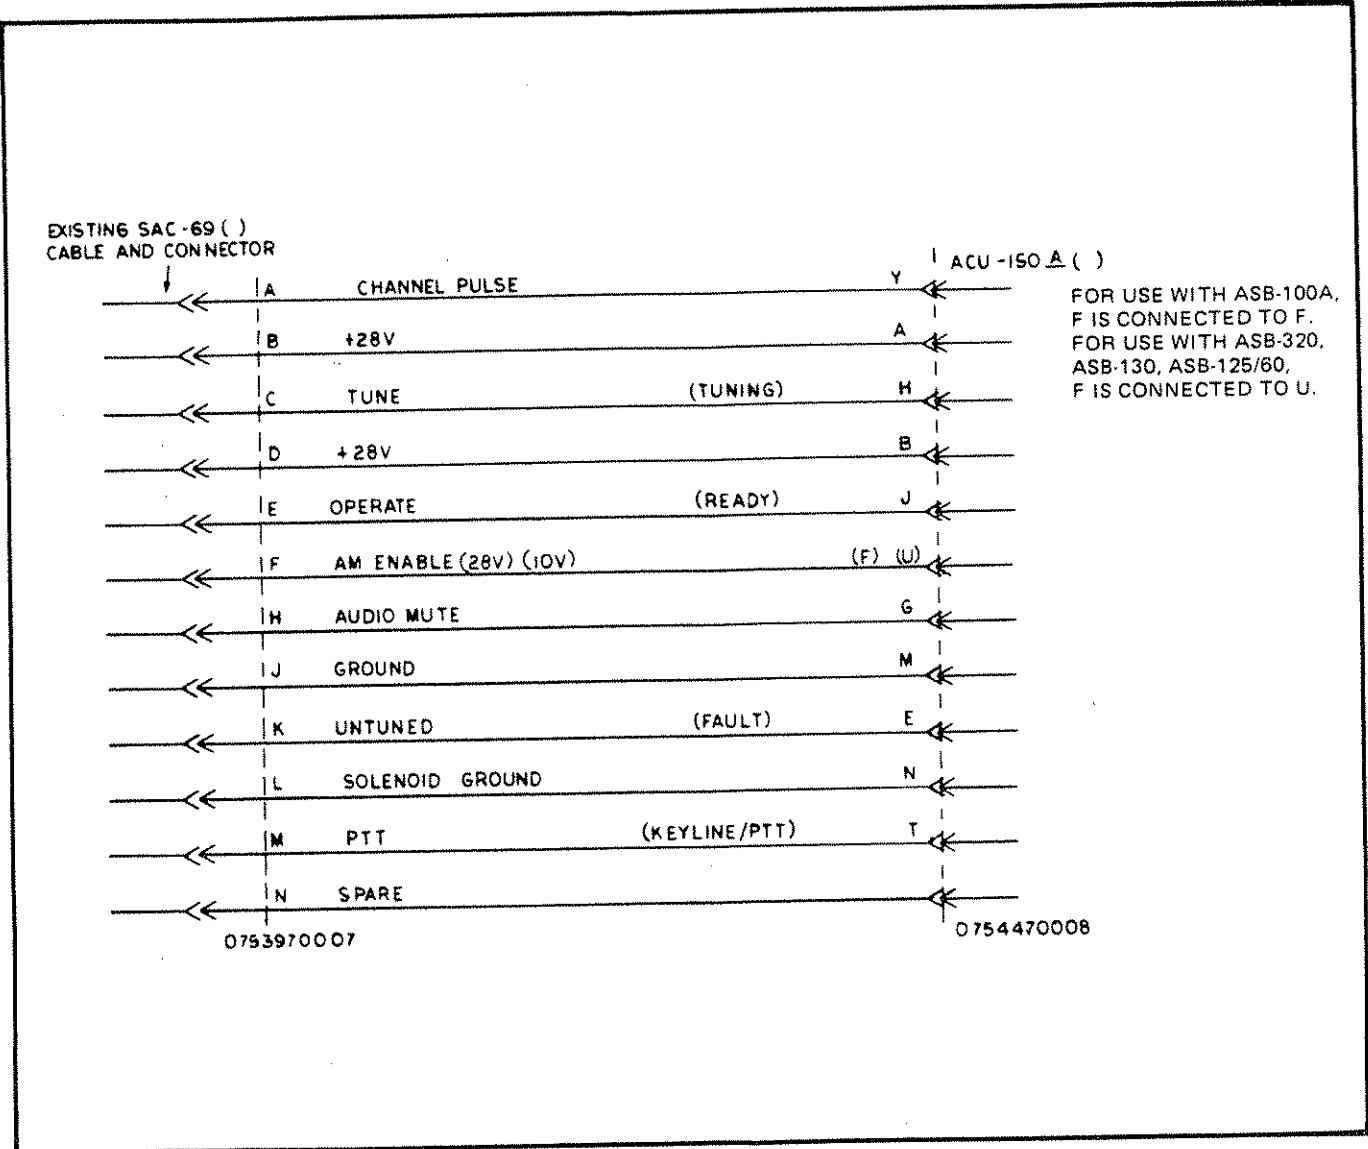

Figure 1.2 Adapter Cable SAC-69 to ACU-150A ()
1.5.6 Options - Connector, Sunair part number 0753970007, can be used to convert an existing SAC-69 installation for use with the ACU-150A(). See Figure 1.2 for wiring instructions.